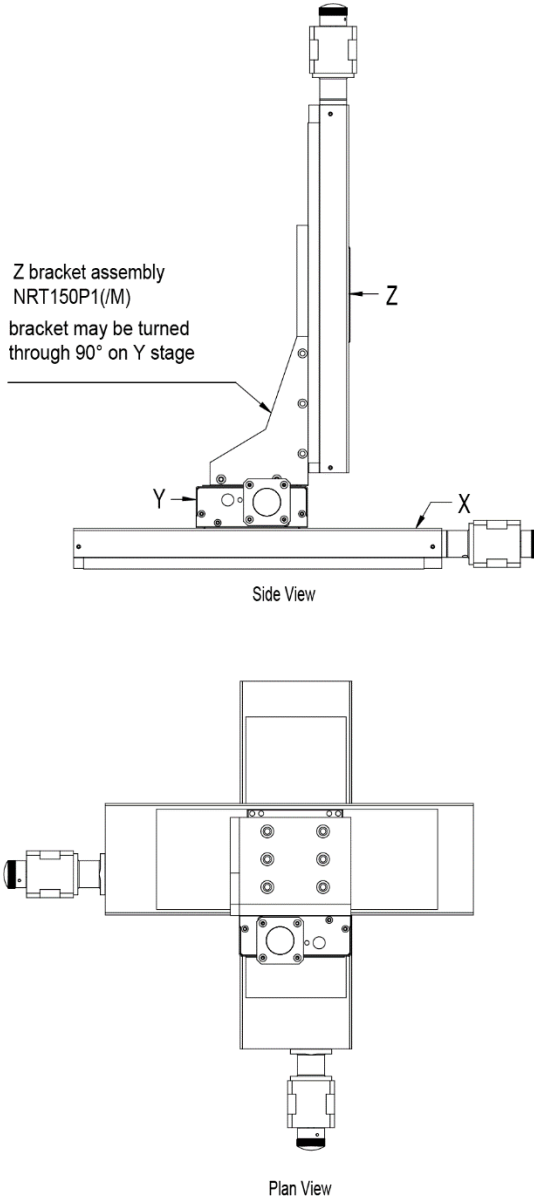

Fig. 3.3 X-Y-Z configuration
- 3) Fit the Z-bracket assembly NRT150P1(/M) to the Y axis stage and attach the Z axis stage as shown in Fig. 3.3.